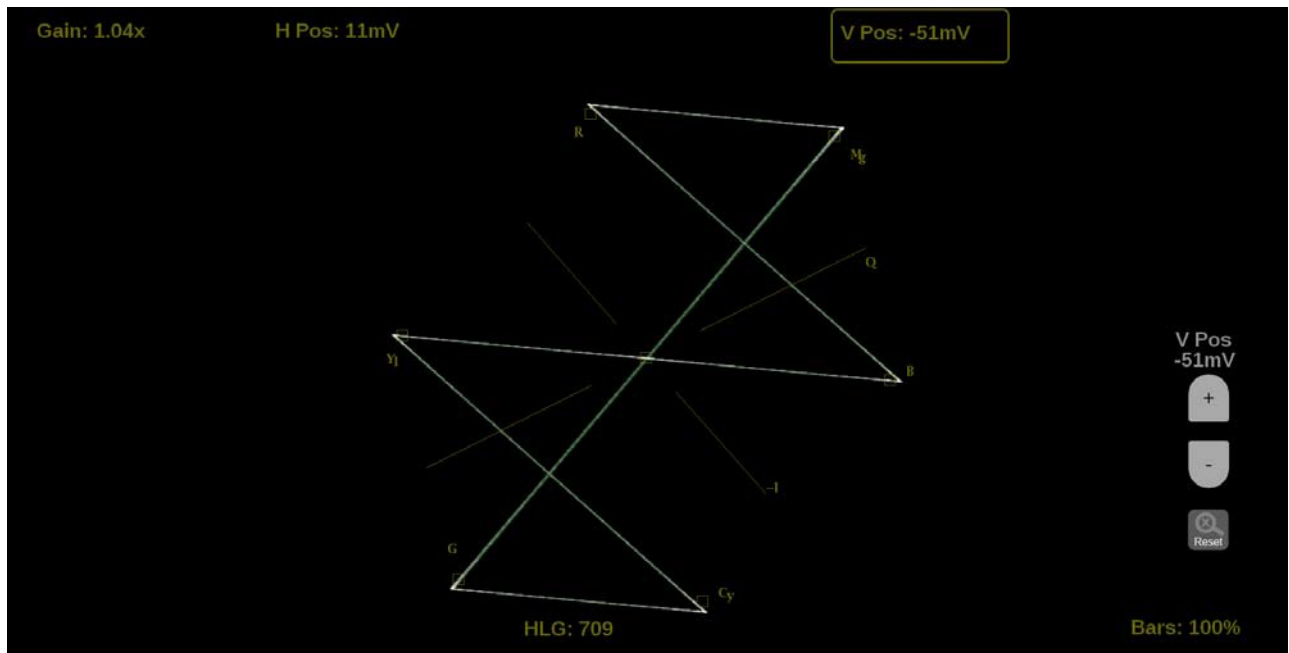

Figure 101: Vector on-screen tools – vertical position
2. Select the **V Pos** button to allow adjustment of the vertical trace. (See Figure 101.)